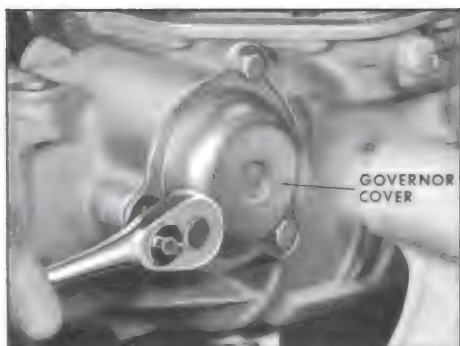

Figure 5-141
1. Remove three (3) attaching bolts retaining governor cover to case using a 1/2" socket. Remove cover and gasket. See Figure 5-141.